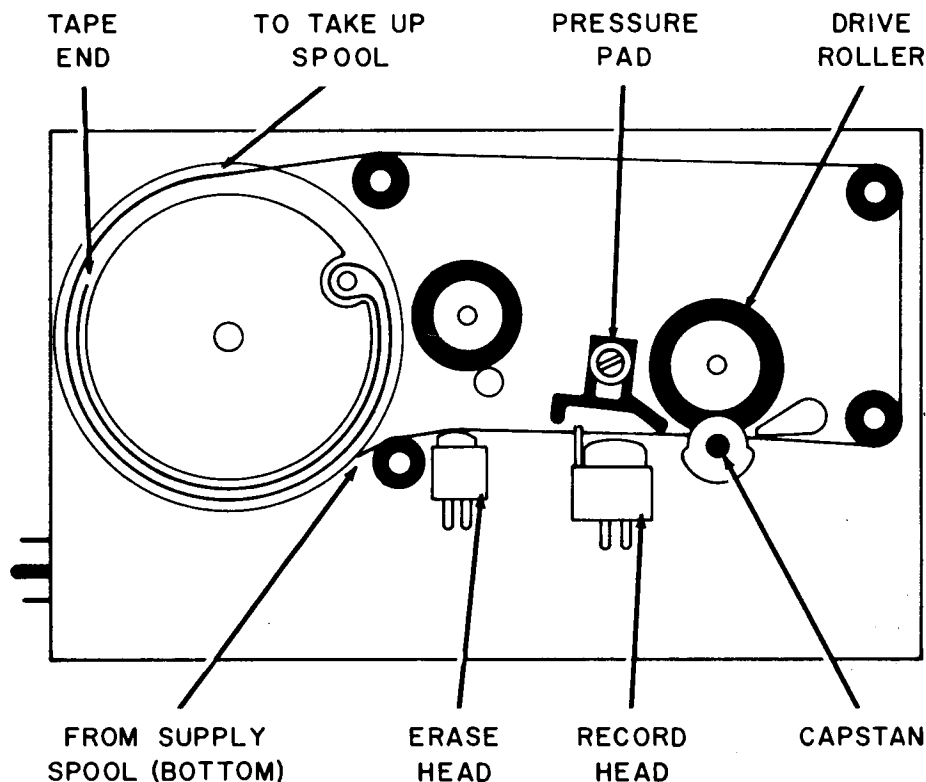
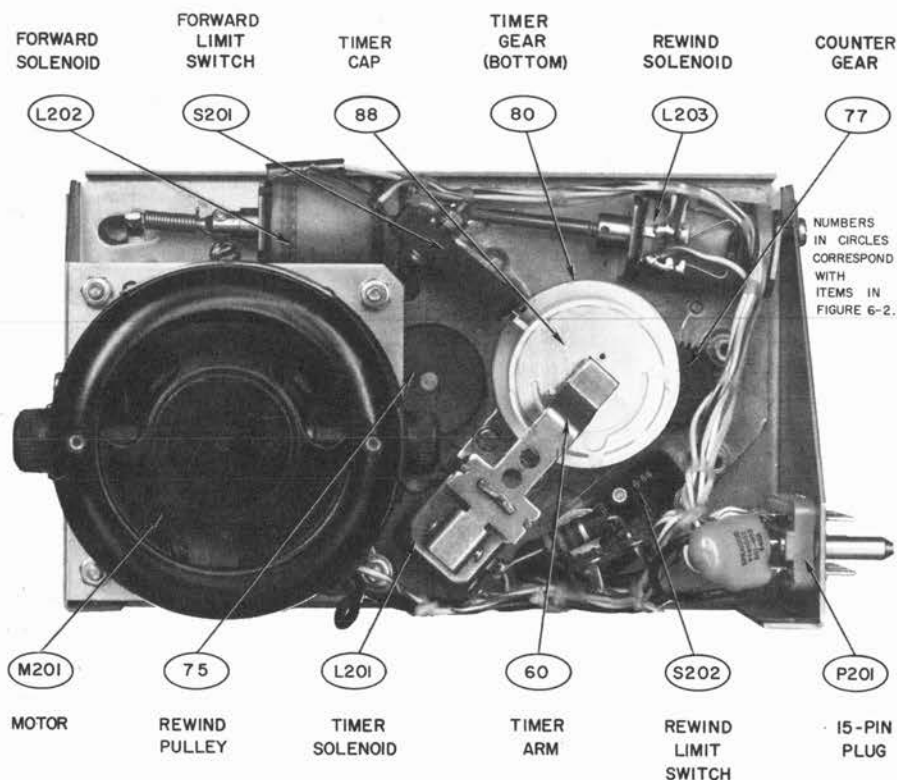

FIGURE 4-3 RECORDING TAPE PATH
FIGURE 4-4 TAPE DECK REAR VIEW
(1) Wind 35 feet or 64 turns of 3M Brand No. 591 recording tape onto supply spool. Connect to spool in the manner shown in fig. 4-3, but wind the tape counterclockwise, with the oxide (dull) side facing outwards.
(2) **Make sure** that timer roller on timer gear is midway between rewind limit switch and counter gear (fig. 4-4).
(3) Replace supply spool, making sure that it meshes with its drive pin. Leave approximately 2 feet of tape free.
(4) Thread tape as shown in fig. 4-3. Do not secure free end yet.
(5) Replace plastic washer.
(6) Replace take up spool, making sure that end of clock spring hooks onto pin on supply spool.
(7) Holding supply spool, wind take up spool clockwise to wind up clock spring until definite resistance is felt (25 to 30 turns) then unwind 10 turns.
(8) Connect free end of tape as shown in fig. 4-3.
(9) Rotate spools counterclockwise to wind tape 10 turns onto take up spool.
(10) Replace tape deck cover with three 6-32 x 5/32"
- (1) Remove 4 nuts from motor plate (fig. 4-4). Remove motor, disengaging motor belt.
- (2) Remove flywheel belt.
- (3) With cloth moistened in alcohol, clean flywheel, motor pulley, rewind pulley, and both belts.
Operate forward solenoid (fig. 4-4) by depressing
b. Forward solenoid (fig. 4-4):
c. Rewind solenoid (fig 4-4):
d. Timer solenoid (fig. 4-4):
Operate machine in REC. function. When selector switch is held in REC. position, timer cap should lift 1/32" to 3/64" to disengage from timer gear. Adjust by bending timer arm (fig. 4-4).
3. Operates timer solenoid L201, releasing timer cap from its mating timer gear to reset the variable forward limit switch actuator to its zero position (fig. 4-4).
The recording tape winds from the supply spool, past erase head H201 and record head H202, and onto the take up spool (fig. 4-3). The supply and take up spools are mechanically coupled internally through a clock spring to maintain proper tension on the tape. After approximately 2 seconds, the timer roller on the timer gear releases rewind limit switch S202 (fig. 4-4).
3. Releases timer solenoid L201 to lock timer drum to timer gear (fig. 4-4). This sets the variable limit switch actuator so that subsequent message reproduction is limited to the recorded interval only.
When the tape has been completely rewound, the timer roller on the timer gear operates rewind limit switch S202 (fig. 4-4).